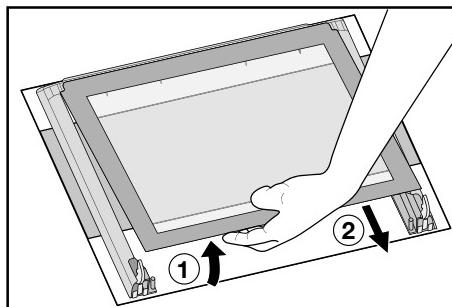

Fig. 15
- 9)** gently lift and carefully take off the uppermost pane marked by a decorative frame on 4 sides (Fig. 15).